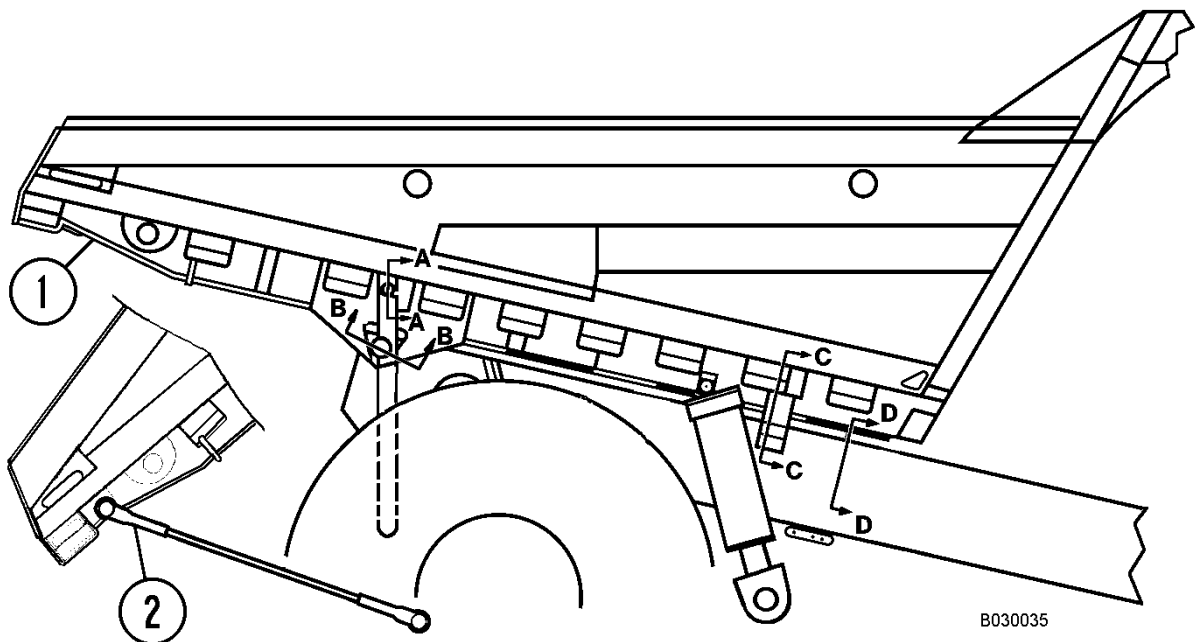

FIGURE 3-1. SECURING THE DUMP BODY
- To hold the dump body in the raised position, raise the body to its maximum height. Refer to Figure 3-1.
2. Remove cable (2) from its stored position on the body and install between dump body (1) and the axle housing ear.